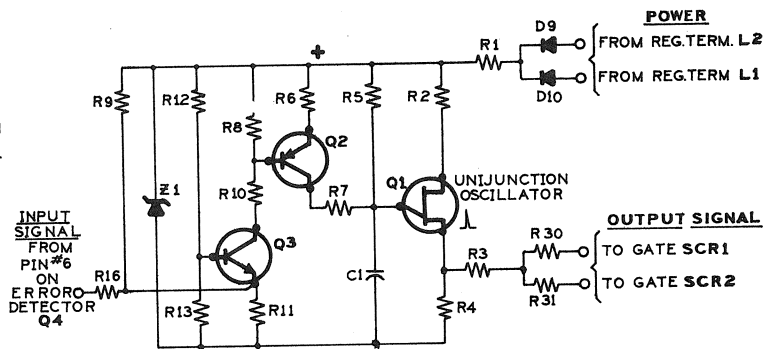

Figure 2-11 SCR Phase Angle Control Circuit
2.1.4.1 All Components comprising the SCR phase control stage are contained on an etched circuit board. Unijunction transistor Q1, transistors Q2, Q3, capacitor C1, zener diode Z1, resistors R1 through R13, R30 and R31 and a rectifier bridge consisting of diodes D9 and D10 comprise this circuit. Refer to figure 2-11 and 6-3.